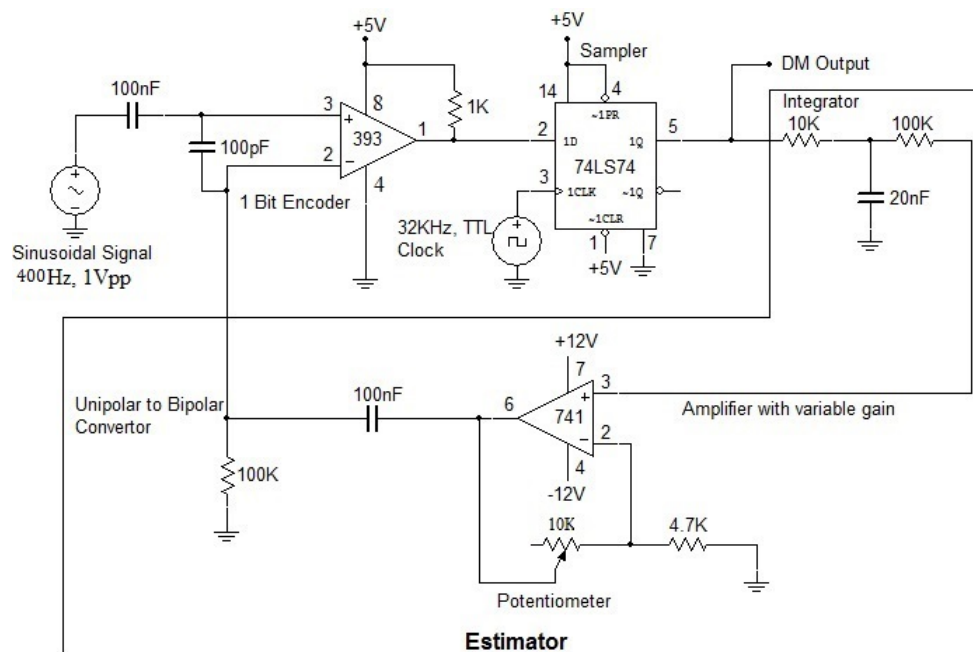

Figure 1: Delta modulation
1. Connect the circuit as given in Figure 1.
2. Give a sinusoidal message signal of 1 Vpp and 400 Hz at the input of comparator as shown in Figure 1. Give a TTL clock of 32 KHz at the clock input of D flip flop.
4. Observe output after each stage of Figure 1 and draw it in your copy with proper specification.